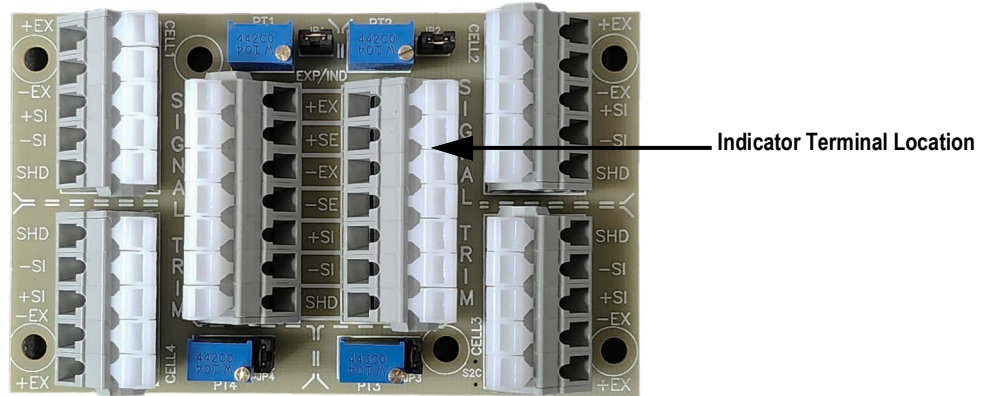

Figure 2-4. Junction Box Wiring
5. Connect the wires to the indicator terminal (Figure 2-4) as shown in Table 2-1.